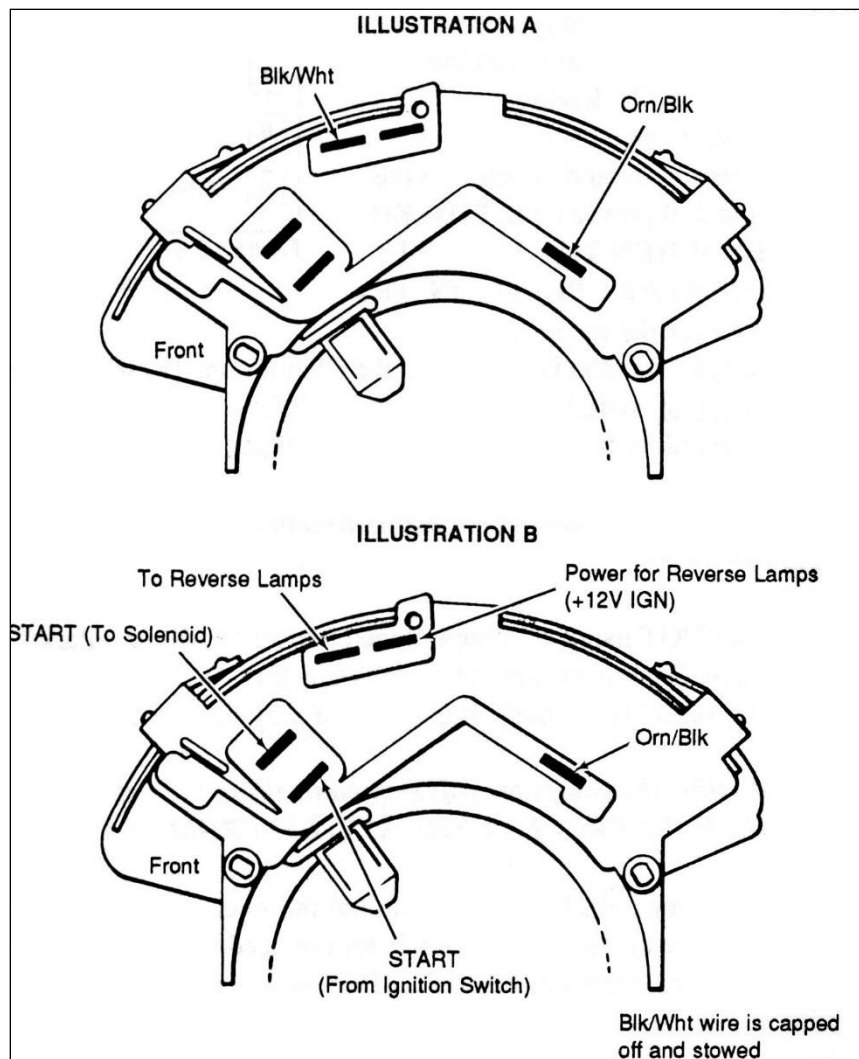

Figure 6.2 Neutral Safety Switch
- D. Locate the ORN/BLK and BLK/WHT wires in the dash group. These two wires are for the Park/Neutral Selector Switch, NOT the Neutral Safety Switch. If you have a GM column then you can use the combination switch P/N **15679680** and wire it as shown in **FIGURE 6.2**.
2. The recommended switch is a combination reverse light AND neutral safety switch. You may use it for these purposes AND for the needed computer signal if you wire it EXACTLY as shown in **Figure 6.2**. You will need to tape off and store the BLK/WHT wire in this case.
3. If you are going to use the recommended switch for the computer's benefit ONLY, then you will wire it as shown in **Figure 6.2**.